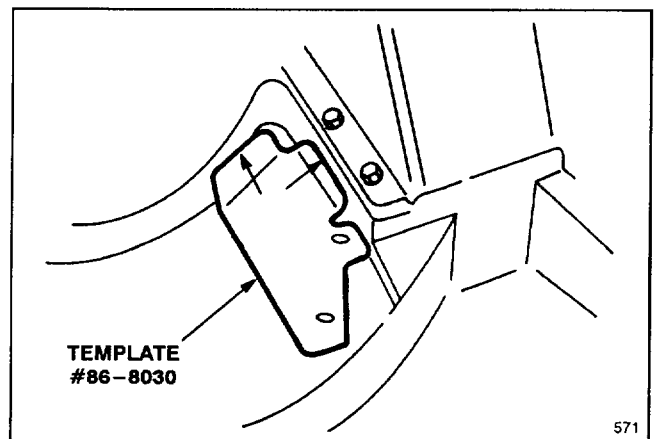

Figure 9
4. Position template #86-8030 so that all tabs are fully contacting mower deck on surfaces indicated in Figure 9. Mark holes with metal punch and remove template.